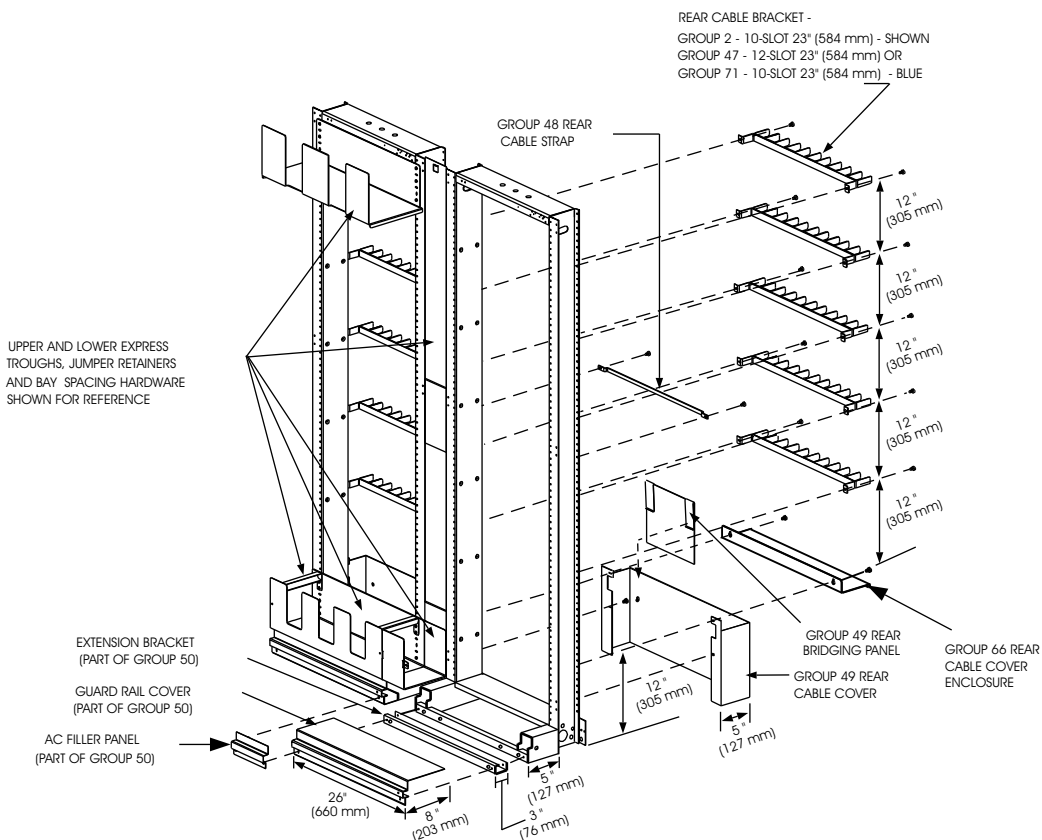

Figure 3. Installing Groups 2, 47, 48, 49, 50, 66, and 71
1. Fasten each Group 48 rear cable strap to frame using two No. 12-24 by 3/8-inch (5.49 mm by 9.52 mm) long screws (see Figure 3).